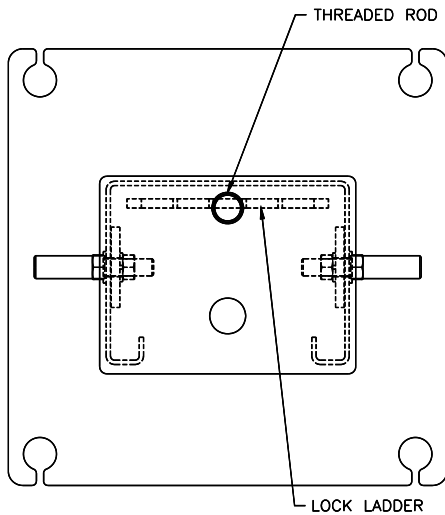

Fig 14 – Locking Ladder Orientation
22) Reassembly the lock ladder and top cap to column. Note: the lock ladder is offset from the center of the threaded rod, and orientate per **Fig 14**.